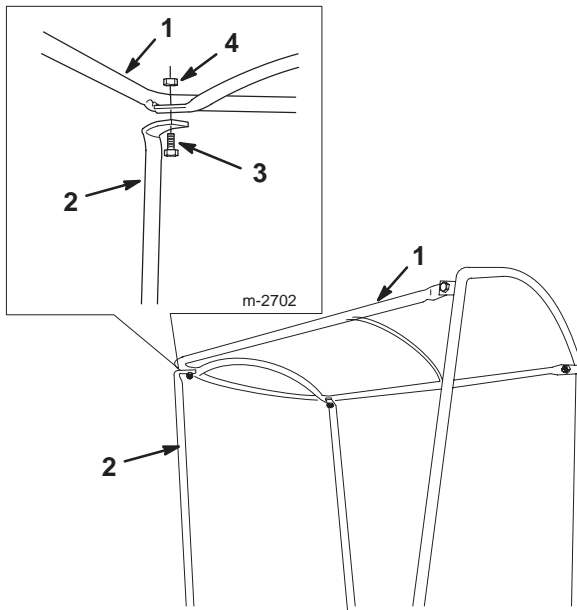
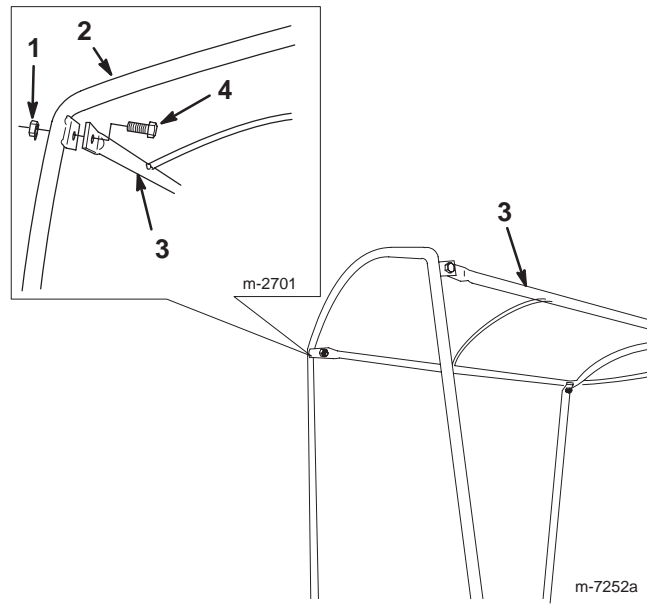

Figure 6
Figure 7
12. Attach the top frame to the front posts (Fig. 6) and to the rear frame (Fig. 7) with 4 bolts (1/4 x 3/4 in.) and 4 locknuts.